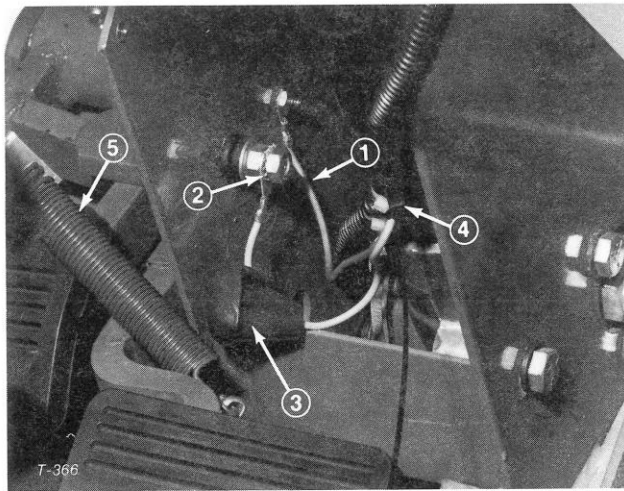

Figure 10
13. Slip end of green wire from wire harness over machine screw on inside of steering cover and secure with nut (Fig. 10). Make sure there is enough slack in grounding clip lead after tightening.
14. Assemble orange wire harness to contact spacer capscrew and secure with lockwasher and nut (Fig. 10). Install boot over orange wire terminal (Fig. 10).
15. Position lower end of wire harness against steering column and secure it to column with a cable tie (Fig. 10).